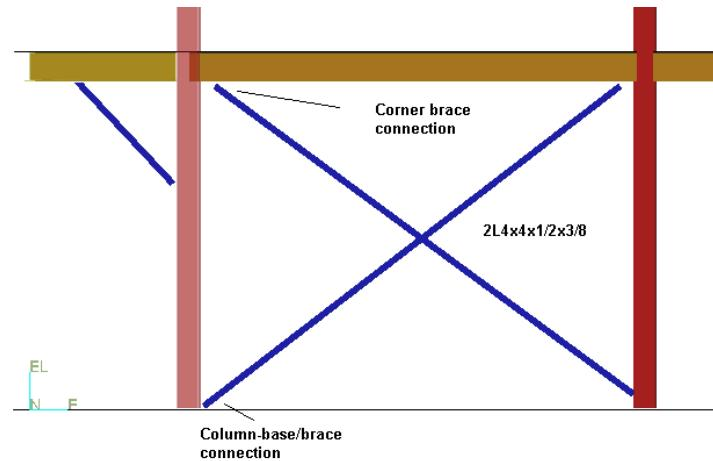

Figure 8 – North View of Building 1
29. Use Place Bracing Command to place cross bracings on the Structure U03 as in figure 8.
31. Select first column for the first SmartStep (See figure 8).